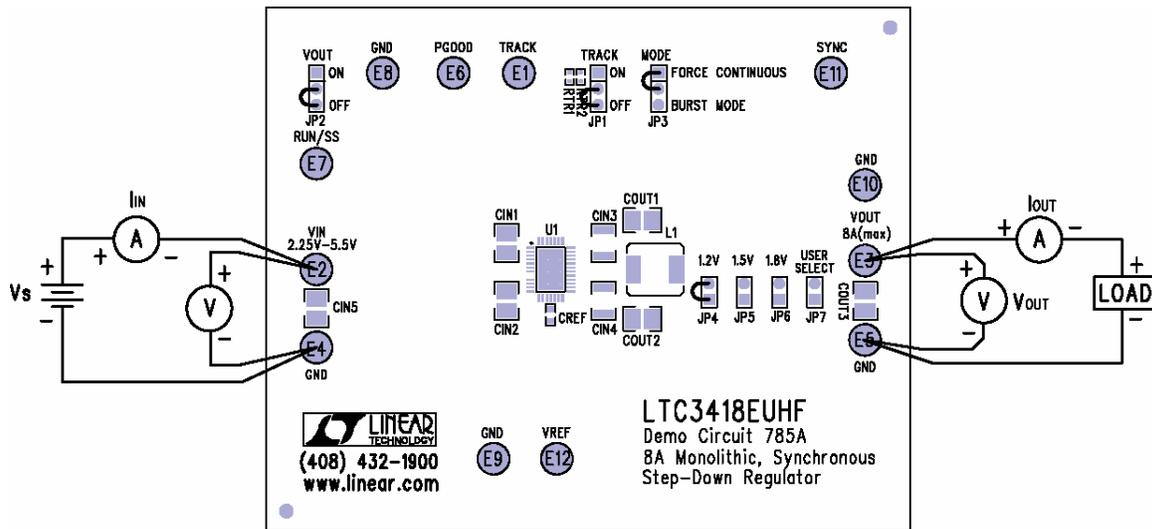

Figure 1. Proper Measurement Equipment Setup
The DC785 demonstration board is easy to set up to evaluate the performance of the LTC3418. For proper measurement equipment configuration, set up the circuit according to the diagram in **Figure 1**. Before proceeding to test, insert jumper JP2 shunt into the off (lower) position, connecting the RUN pin to ground (GND), which shuts down the circuit.
1. Connect the input power supply and the load to the board. Do not hot-plug  $V_{in}$  or increase  $V_{in}$  over the rated maximum supply voltage of 5.5V, or the part may be damaged. Refer to figure 1 for the proper measurement equipment setup.